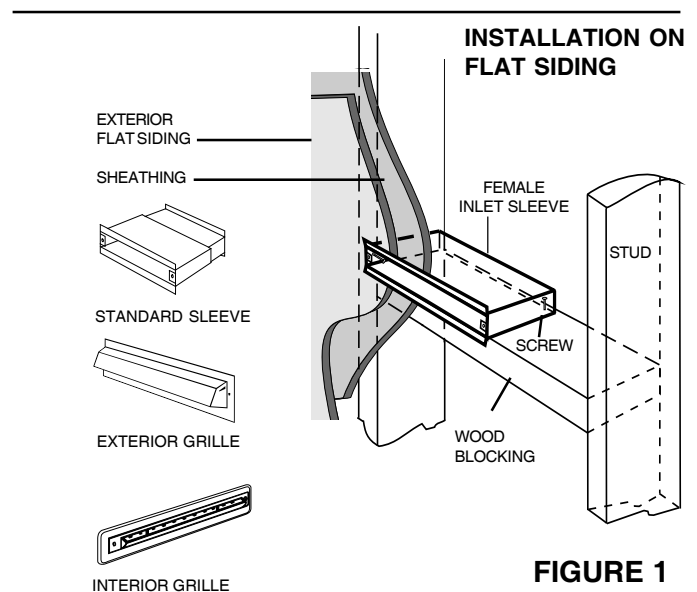

FIGURE 1
**2.1.3** Install the female part of the sleeve from the outside and secure it to the blocking with a **flat head** wood screw through the edge of the sleeve (drill a small hole in the sleeve as necessary). *See figure 1.*